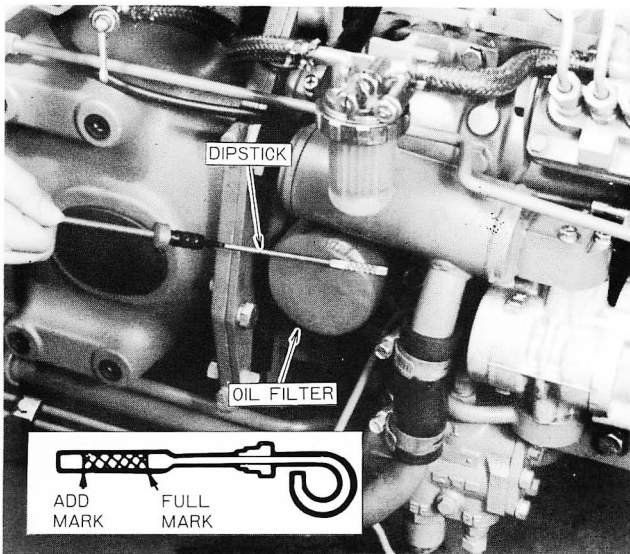

Figure 37 — Engine Oil Level Dipstick and Filter
1. With the tractor standing level, and after the engine has been stopped for a period of time, check the oil level with the dipstick, Figure 37.
2. Unscrew the oil filter, Figure 37, catching the used oil in a suitable container placed below the filter. Discard the filter.